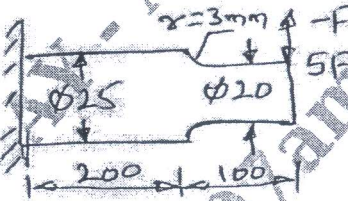

Fig.Q1(c)
- c. A cantilever beam is C-45 steel is subjected to completely reversed bending load varying from $5F$ to $-F$ as shown in Fig.Q1(c). Determine the maximum load the member can carry for infinite life. Take $\sigma_y = 353$ MPa and $\sigma_u = 640$ MPa for the material. Assume $FoS = 2$.